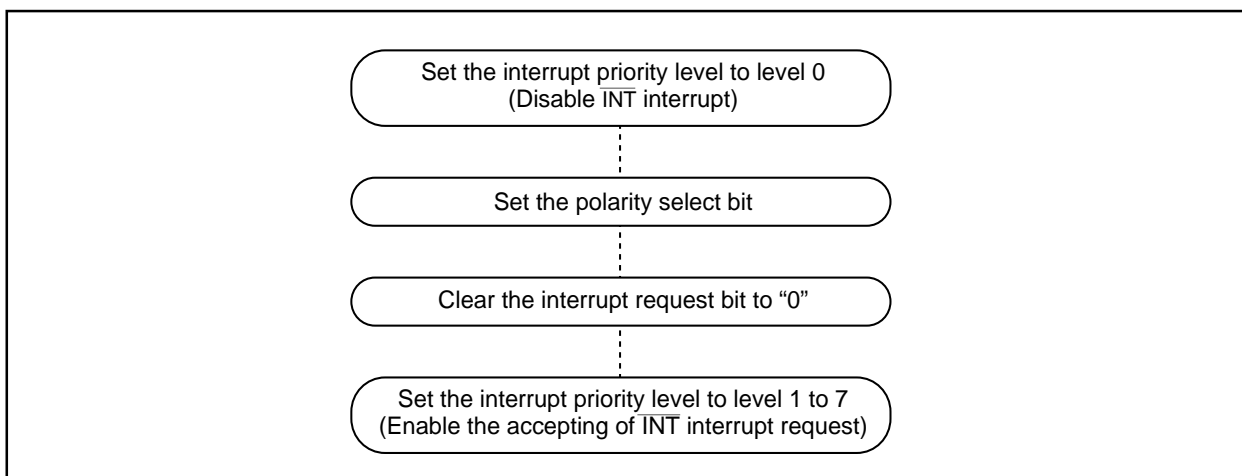

Figure 27.2 Switching condition of $\overline{\text{INT}}$ interrupt request
- When the polarity of the INT₀ to INT₅ pins is changed, the interrupt request bit is sometimes set to "1". After changing the polarity, set the interrupt request bit to "0". Figure 27.2 shows the procedure for changing the $\overline{\text{INT}}$ interrupt generate factor.